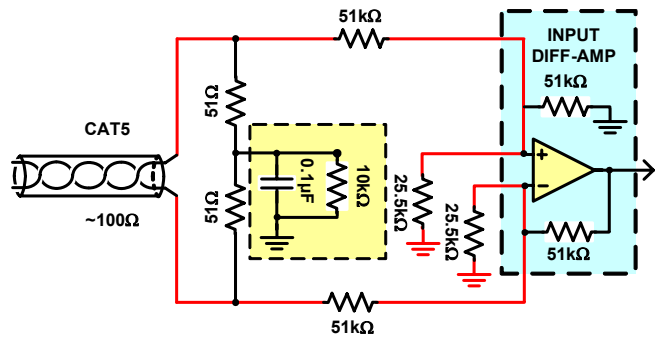

FIGURE 6. EXTENDED CMV TO ±12V CIRCUIT
**EL5111 with CMV Attenuation ±CMV 12V Option (Figure 6)**